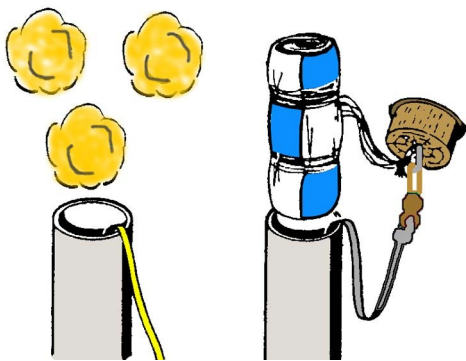

Figure 14
- **Step 29** Using Figure 14 as a guide, select either a pre-packaged flameproof recovery wadding, or flameproof cellulose